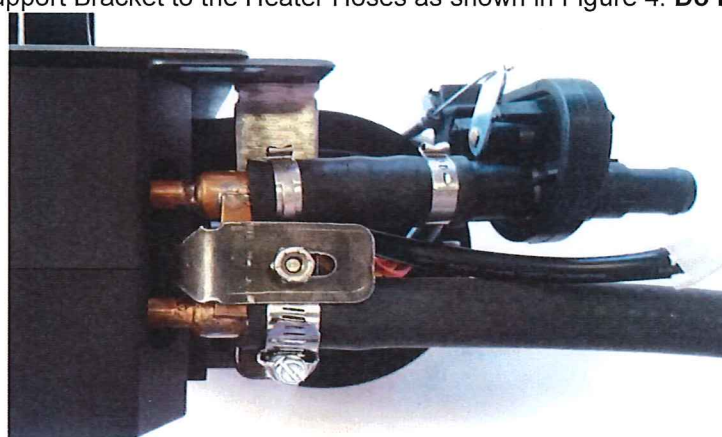

Figure 4
14. Install the Heater Core Support Bracket to the Heater Hoses as shown in Figure 4. **Do not over tighten**.
- a. The hose that comes from the top hose of the radiator will connect to the temperature control valve. See Figures 4 & 6.
- b. The hose that comes from the bottom hose of the heater core will attach to the bottom hose of the radiator. See Figures 4 & 6.